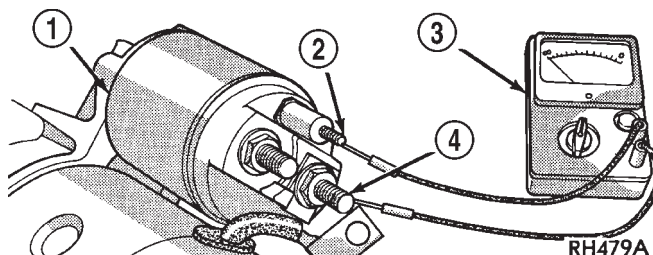
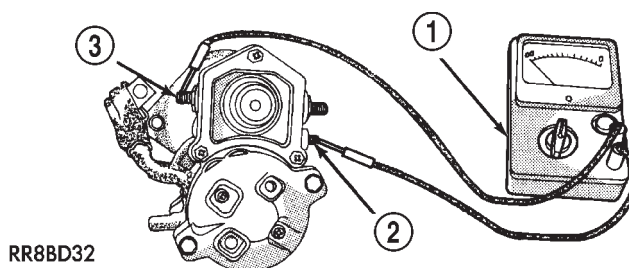

Fig. 7 Continuity Test Between Solenoid Terminal and Field Coil Terminal - 2.5L Engine - Typical
Fig. 8 Continuity Test Between Solenoid Terminal and Field Coil Terminal - 3.9L, 4.7L, 5.9L Engine - Typical
(1) Remove the starter motor from the vehicle. Refer to **Starter Motor** in the Removal and Installation section of this group for the procedures.
(2) Disconnect the wire from the solenoid field coil terminal.
(3) Check for continuity between the solenoid terminal and the solenoid field coil terminal with a continuity tester (Fig. 7) or (Fig. 8). There should be continuity. If OK, go to Step 4. If not OK, replace the faulty starter motor assembly.